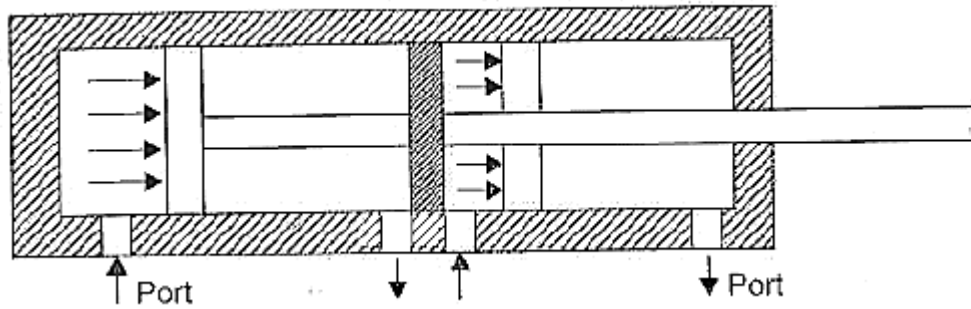

Fig.5.11 Tandem cylinder
- ▶ A schematic diagram of a tandem cylinder is shown in Fig.5.11. Tandem cylinders are two separate double acting air cylinders arranged in line as one cylinder body, so that the power generated by them works in combination approximately doubling the piston output.